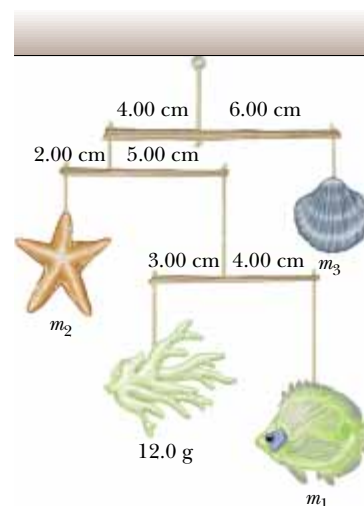

Figure P12.10
10. A mobile is constructed of light rods, light strings, and beach souvenirs, as shown in Figure P12.10. Determine the masses of the objects (a) m_1 , (b) m_2 , and (c) m_3 .